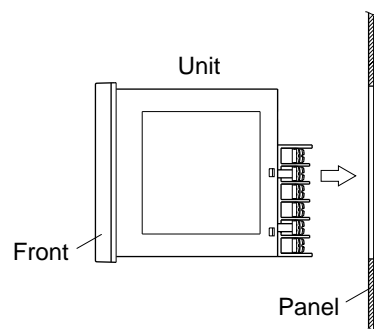

Figure 4
- ① As shown in Figure 4, fit a packing to the case of the unit and then insert it in the panel.